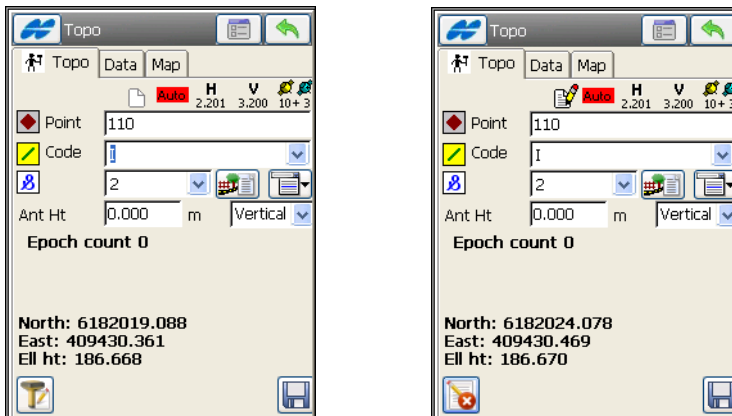

Figure 9-7. Topo for PP Kinematic
-  (for PP enabled RTK, PP Kinematic, and PP DGPS) – starts logging file in the receiver. When pressed, the button toggles to  (Figure 9-7 on page 9-7).